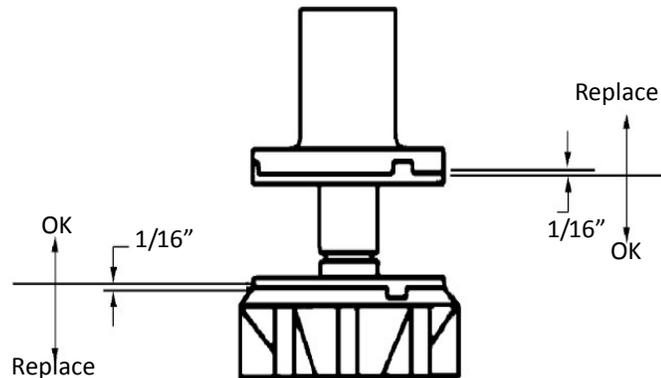

Figure 4. Upper Nut and Bearing Assembly
7. Check white upper bearings on auger assembly. If bearings are less than 1/16" thick, replace. See Figure 4